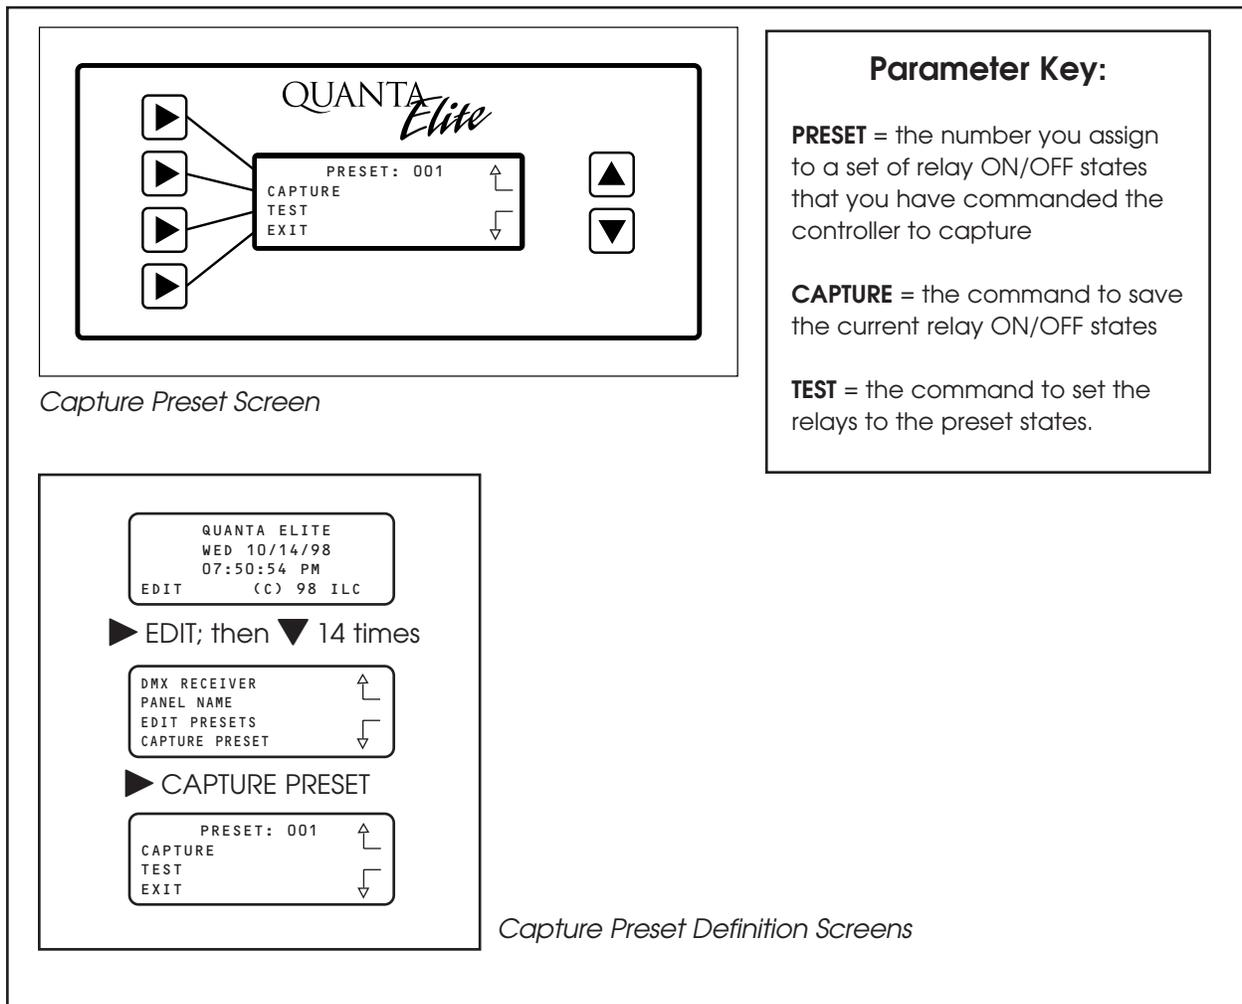

Figure 3.18
2. Then press ▼ 14 times to access the Capture Preset screen. (See Figure 3.18.)